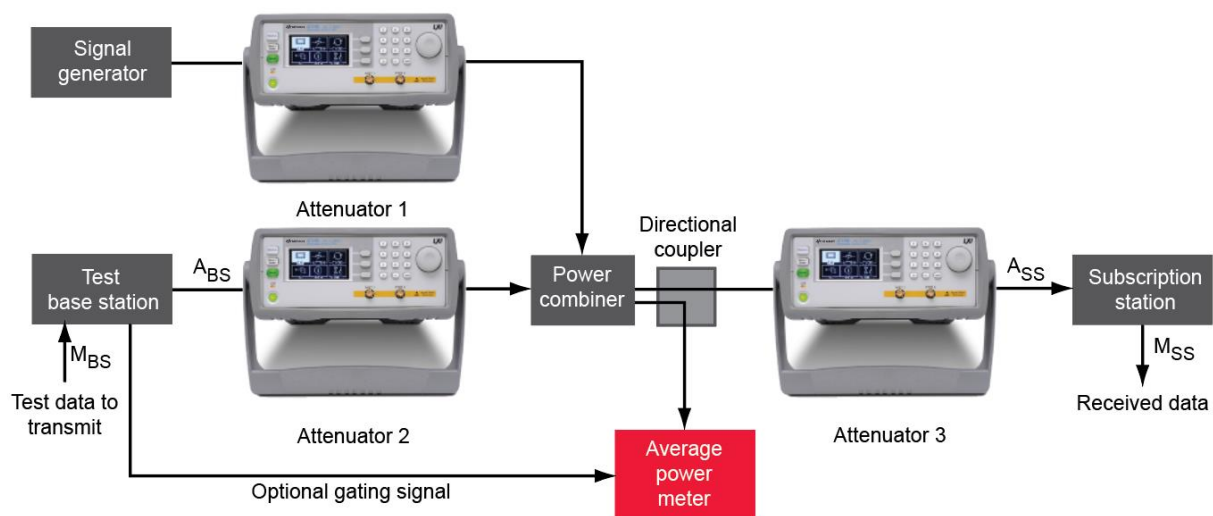

Figure 3. Test setup for 1st adjacent channel interference
Figure 3 shows the test setup for WiMAX 1st adjacent channel interference. The adjacent channel interference test measures the signal in the adjacent channel to ensure that the receiver meets the specifications shown in Tables 1 and 2.
A connection between the test base station (BS) and the subscriber station (SS) is set up as shown in Figure 3. Attenuators 1 and 2 are used to adjust the signal level between the useful and interfering signals. Attenuator 3 is used to adjust the absolute signal level at the receiver and can be held at a constant value of 10 dB. The signal generator transmits a signal on the first adjacent channel that is similar to the useful signal. The losses for the coupler and the connecting waveguides are measured and the attenuators are calibrated. When measuring the power, you need to take into account the effect of the coupler, the losses and the duty cycle.